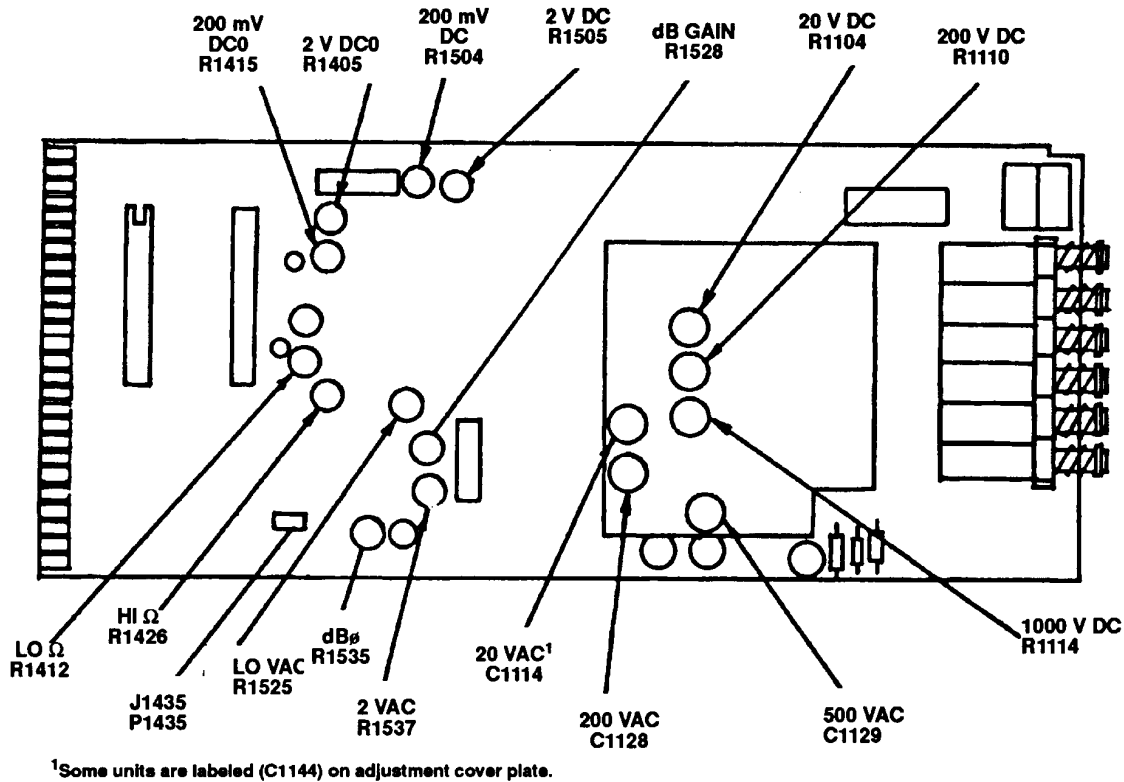

Figure 2. Tektronix, Type DM 501 A - left side view.
- (1) Adjust 2 V DC 0 R1405 (fig. 2) until TI indicates all zeros (R).
- (2) Adjust 200 mV DC 0 R1415 (fig. 2) until TI indicates all zeros (R).
- (1) If necessary place dBm/dBV jumper J1435 P1435 (fig. 2) in dBm position.
- (2) Connect calibrator **OUTPUT** to TI **VOLTS/Ω** and **LOW** terminals. Press TI **AC TRUE RMS** and **dB** pushbuttons.
- (3) Press **dB** range pushbutton and set calibrator output as listed in table 9. TI will indicate within the specified limits; if not, perform adjustments indicated.
- (1) Release **HI-LO** pushbutton (HI) and set calibrator for a nominal 19 k Ω output.
- (2) Adjust HI Ω R1426 (fig. 2) for a TI indication equal to calibrator's displayed value for 19 k Ω (R).
(3) Press **HI-LO** pushbutton (LO); then adjust LO Ω R1412 (fig. 2) for a TI indication equal to calibrator's displayed value for 19 k Ω (R).